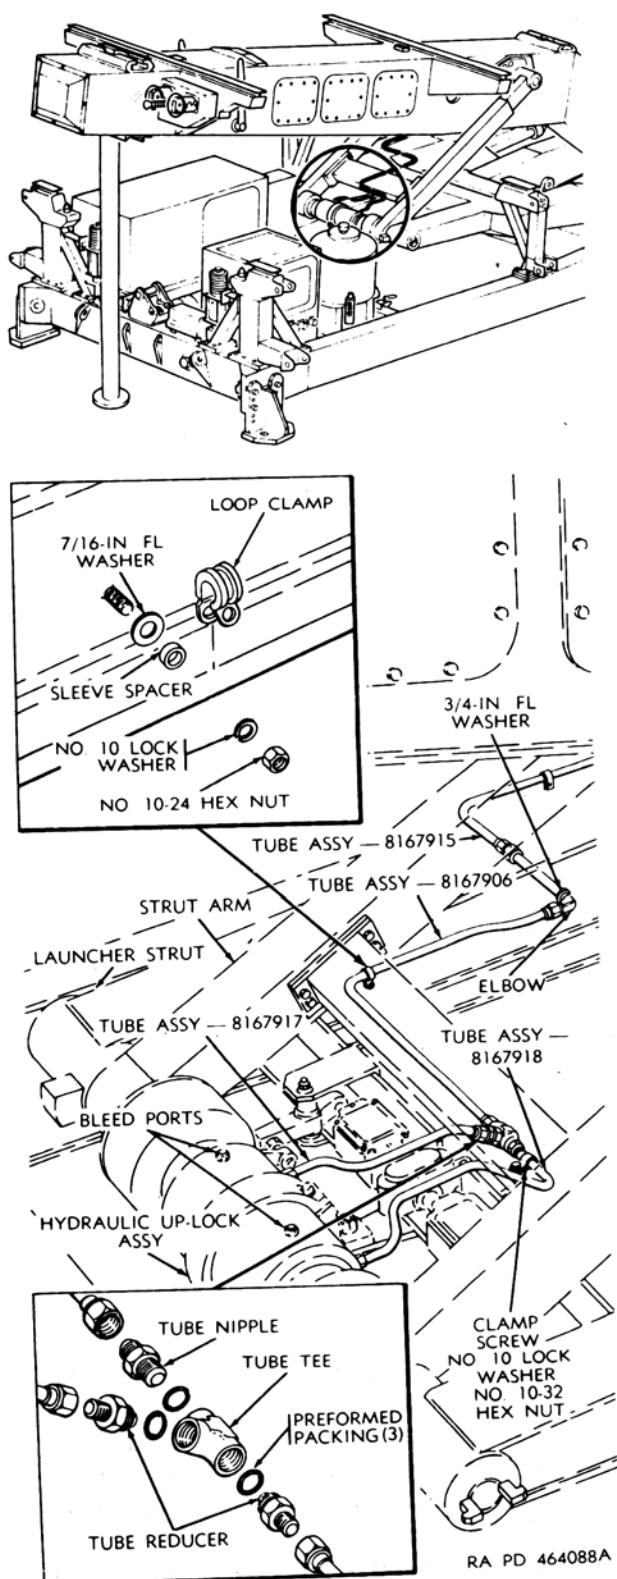
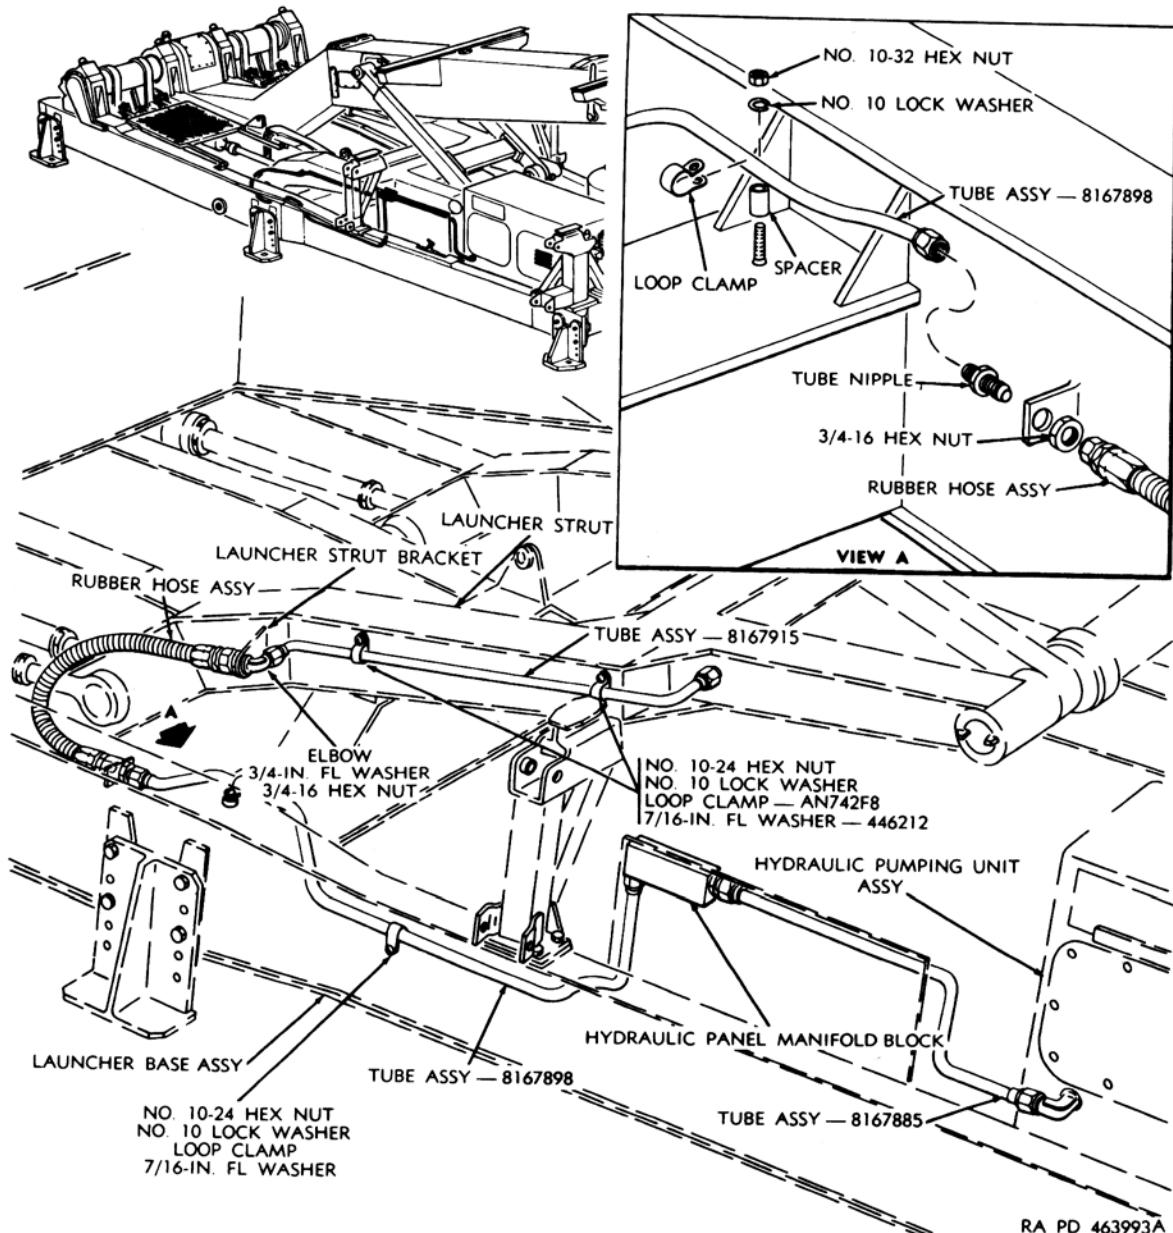

Figure 199. Hydraulic up-lock system hydraulic network—removal and installation.
Figure 200. Hydraulic up-lock system hydraulic network—removal and installation—continued.
200), tube nipples (figs. 199 and 200), tube reducers (fig. 199), and tube tee.
- (6) Remove tube assemblies (figs. 199 and 200); cap all open lines.
- (1) Install rubber hose assembly (fig. 200), tube assemblies (figs. 199 and 200) tube nipples, tube reducers (fig. 199), and tube tee. Torque coupling nuts to values specified below:
- (2) Install loop clamps (figs. 199 and 200) and secure network.